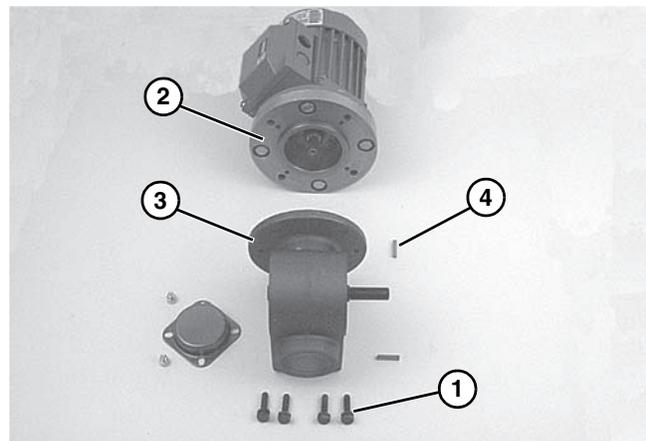

Figure 11
4. Remove four screws (**Figure 11, item 1**). Detach motor (**Figure 11, item 2**) from gear reducer (**Figure 11, item 3**). Retain motor output shaft key (**Figure 11, item 4**).